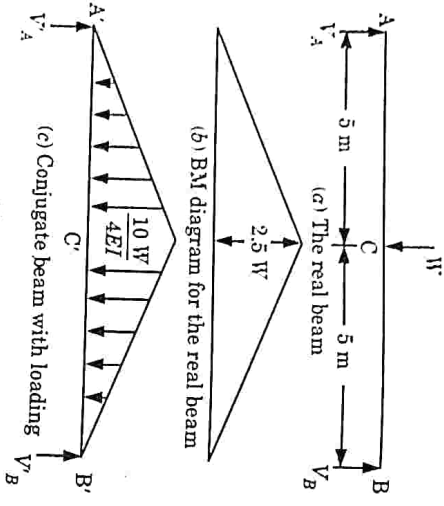

Fig. 17.
- 1. Fig. 17(a) shows the real beam, BM diagram for the real beam is shown in the Fig. 17(b).
2. The  $\frac{M}{EI}$  diagram of the real beam becomes the elastic weight or loading for the conjugate beam. The conjugate beam A'C'B' (corresponding to the real beam ACB) with the loading is shown in Fig. 17(c).